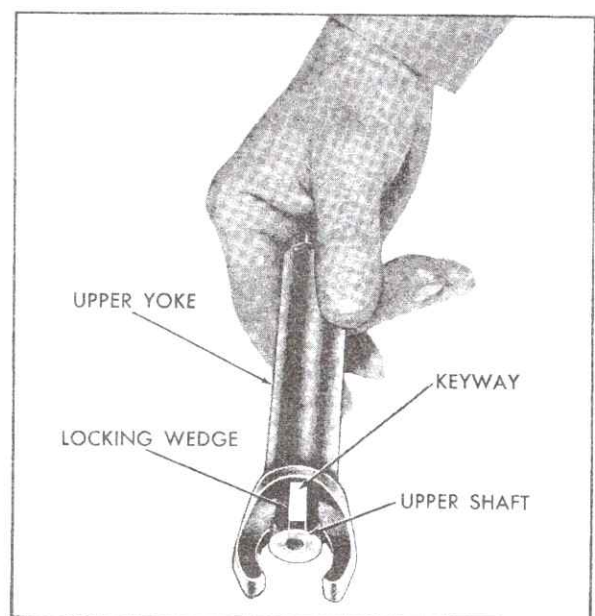

Fig. 9-55 Installing Locking Wedge and Upper Shaft Into Upper Yoke
16. Position locking wedge in upper steering shaft, Fig. 9-55, align with keyway and slide upper shaft into upper yoke from below.